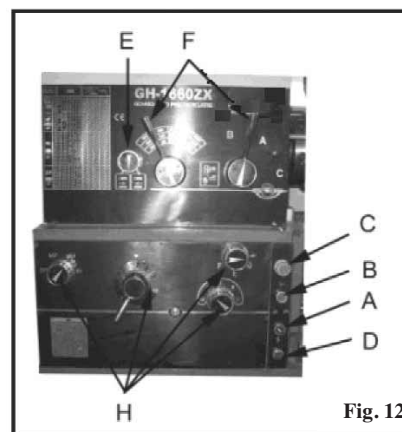

Fig. 12
Coolant On-Off Switch: (A, Fig.12) turns coolant pump on and off.
Power Indicator Light: (D, Fig.12) Lit whenever lathe has power.
Emergency Stop Switch: (C, Fig.12) Depress to stop all machine functions. (Caution: Lathe will still have power). Twist clockwise to reset.
Jog Switch: (B, Fig.12) Quickly depress and release to rotate the spindle.
2. **Headstock Gear Change Levers:** (F, Fig.12) Located on front top portion of headstock. Move levers left, or right to desired spindle speed.
3. **Leadscrew/Feed Rod Directional Lever:** (E, Fig.12) Located on front of headstock at left and lower section. Changing knob changes direction of feed. (Caution: Do not move knob while machine is running.)
4. **Feed/Lead Selector Lever:** (H, Fig.12) Located on front of headstock. Used whenever setting up for threading or feeding.